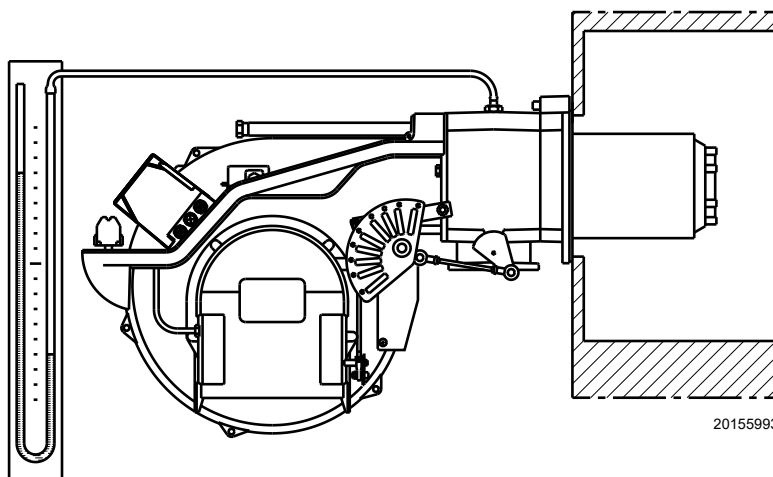

Fig. 27
- Fit a U-type pressure gauge (Fig. 27) to the gas pressure test point on the pipe coupling.
The arrival of gas to the sleeve is indicated by the U-type pressure gauge (Fig. 27 on page 25).
A rough indication can be obtained from Tab. K on page 21, just read the gas pressure on the “U” pressure gauge (see Fig. 27 on page 25) and follow the indications.